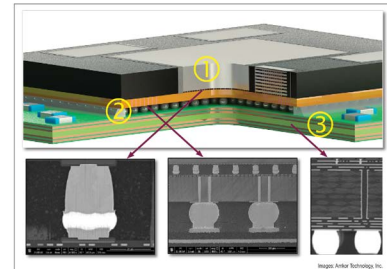

Figure 2. Three key elements of advanced 2.5D packaging technology
Amkor's TSV reveal process and chip-on-wafer (CoW) packages have been in high-volume manufacturing (HVM) for three years. The assembly processes are high-yielding flagships of the new ultra-clean K5 facility in Song-Do, South Korea, near the Incheon International Airport. Figure 2 shows the key elements of a typical implementation of this packaging technology.
- For bottom level transistors, we observed no change in terms of reliability. Top level transistors meet lifetime requirements at 5 and 10 years, additional gate stack solutions investigated on short-loop lots are promising to improve the reliability level to be measured on the full-3D CoolCube (Figure 2).